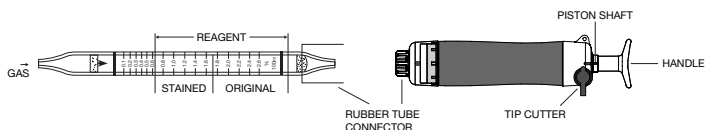

Fig. 1
- ① Break both ends of detector tube.
- ② Insert the detector tube into the aspirating pump securely as shown in Fig.1. (Arrow mark shall point to the pump.)
- ③ Align the guide marks on the shaft and stopper of the aspirating pump.
- ④ Pull the pump handle at a full stroke until it locks and wait for 5 minutes or until the completion of sampling is confirmed with the flow indicator of the pump. (See descriptions about the flow indicator in the instruction manual of the pump.)
- ⑤ On completion of sampling, read the scale at the maximum point of the stained layer.
- ⑥ When the concentration is over the scale range, a 1/2 pump stroke can be used to determine concentrations of 0.2 to 5.2 ppm.